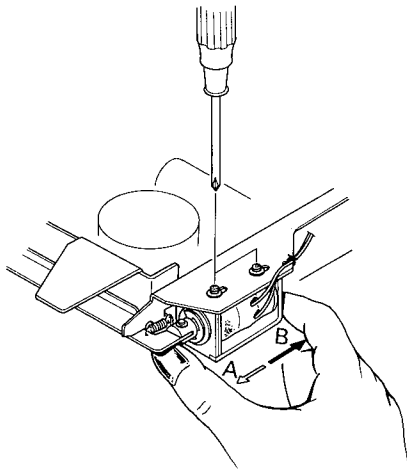

Fig. 5.10
- (1) Remove the mechanism ass'y referring to the item 3.3, mechanism ass'y removal procedure. See Fig. 5.10.
- (2) Loosen the screw a little and move the solenoid in the A direction.
- (3) Depress the play button.
- (4) Holding the solenoid as shown in the figure, slide the solenoid gradually by hand in the B direction.
- (5) Then play button will release. Move the solenoid approximately 0.1 to 0.3mm from the released point in the B direction. Fasten the solenoid.
- (6) Assemble the mechanism ass'y and turn the power switch on. And check to insure whether the solenoid can be released at the Play, FF, REW and Pause modes.